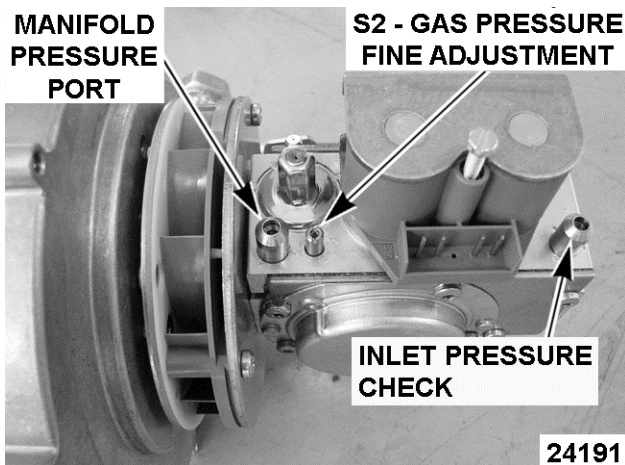

Fig. 45
9. Verify inlet pressure is 5-7" W.C. (natural) and 11-13" W.C. (propane). Refer to: Fig. 45.
- Turn S2 gas pressure (Fig. 45) fine adjustment screw 1/4 turn (CW to increase; CCW to decrease).